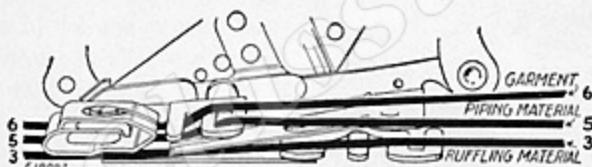

Fig. 90. Correct Positions for the Materials
- (1) Insert the material to be ruffled between the two blue blades, **Line 3, Fig. 90**. This material must not exceed 1-1/4 inches in width.
- (2) The piping material is usually cut on the bias and it should be about 1/4 inch wide when folded in the center. Place the piping material in the ruffler, following **Line 5, Fig. 90**, with the folded edge of the piping to the right.
- (3) Fold the edge of the material to which the piping and ruffling are to be attached and insert it in the ruffler from the left, following **Line 6, Fig. 90**.